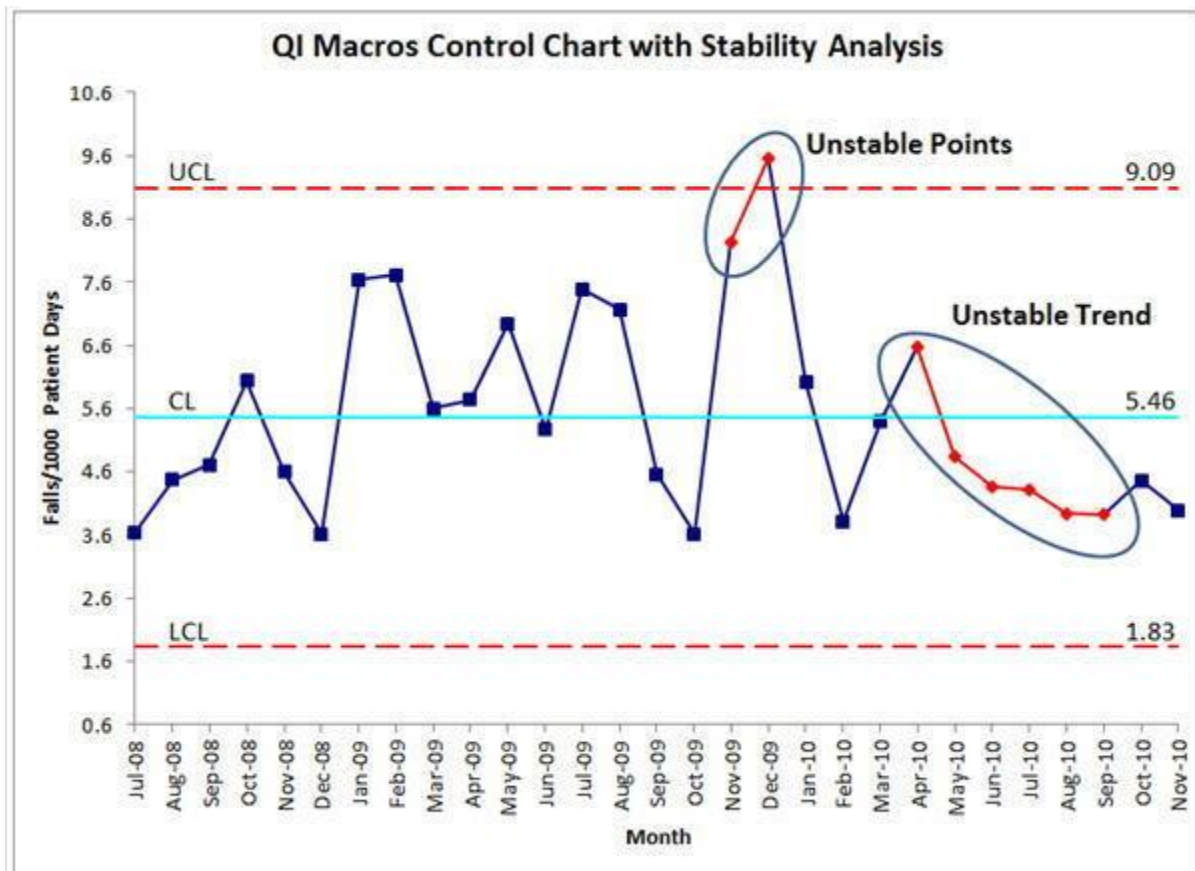

Fig 3: A Chart Showing an Unstable Process
**Uncontrolled Process:** Fig 3 above shows an uncontrolled process. As it may be seen from the graph points which have caused the process become unstable are showing an upward trend or a downward trend.